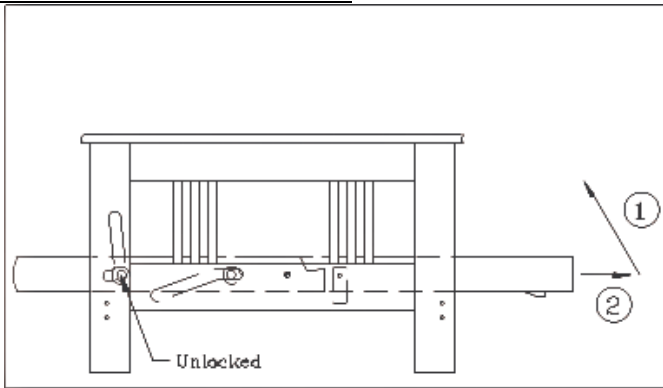

Figure 3
- 1) While standing in front of the sofa-bed convertible, lift the seat up and toward the backrest until the wooden kickers slide into notches in the backrest's legs (Figure 3).
- 2) Pull the seat forward about an inch to release it from the locked position (Figure 3).